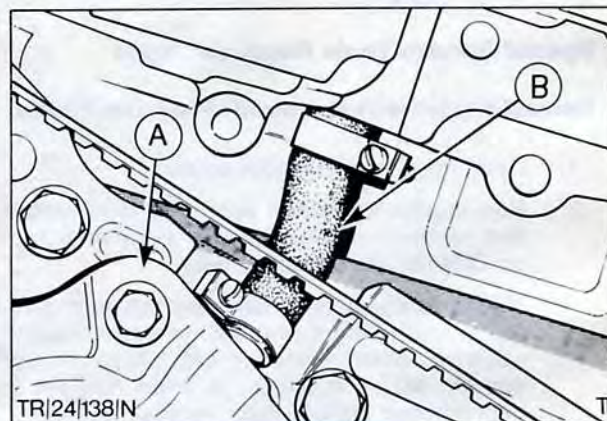

Fig. 29. A - Water pump
16. Ensure by-pass hose is not kinked or buckled, Fig. 29 and then tighten clamp at cylinder head end of hose.